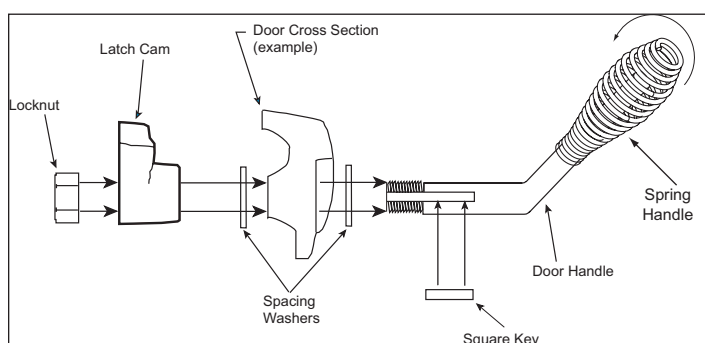

Figure 23.3 - Door Handle for Arched Door
3. Install second washer(s) as shown in **Figure 23.3.**